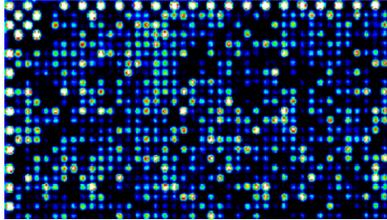

Figure 7.5 Example of Checker Board Pattern
- The checkerboard pattern at each corner (Figure 7.5 on page 268) and throughout the array